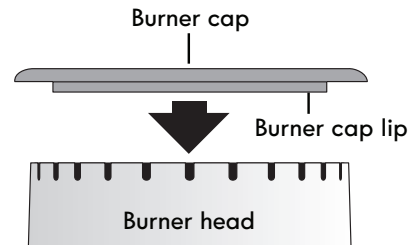
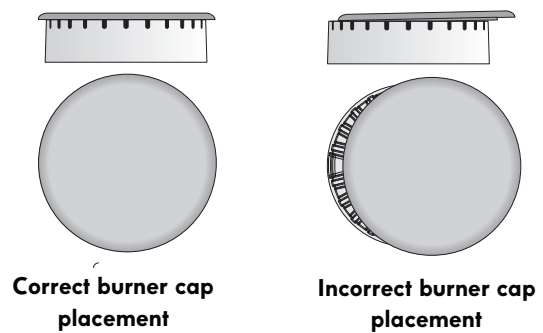
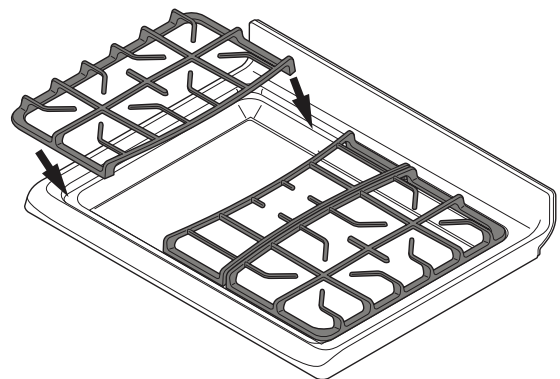

Figure 1: Burner cap on burner head
Figure 2: Correct placement (L) Incorrect placement (R)
Figure 4: How to place burner grates properly
On round style burners, the burner cap lip (See Fig. 1) should fit snug into the center of burner head and rest level. Refer to Figs. 2 & 3 for correct and incorrect burner cap placement. Once in place, you may check the fit by gently sliding the burner cap from side to side (Fig. 4) to be sure it is centered and firmly seated. When the burner cap lip makes contact inside the center of the burner head you will be able to hear the burner cap click. Please note that the burner cap should NOT move off the center of the burner head when sliding from side to side. Check and be sure that all oval style (some models) burner caps are correctly in place on oval burner heads.
For best cooking results, cookware should have flat bottoms that rest level on the burner grate. Before using cookware, check for flatness by rotating a ruler across the bottom of the cookware (Fig. 1).
For most cooking; start on the highest setting and then turn to a lower setting to complete the process. Use the recommendations below as a guide for determining proper flame size for various types of cooking (Fig. 2)
2. Push the desired surface control knob in and turn counterclockwise out of the OFF position (Fig. 1).